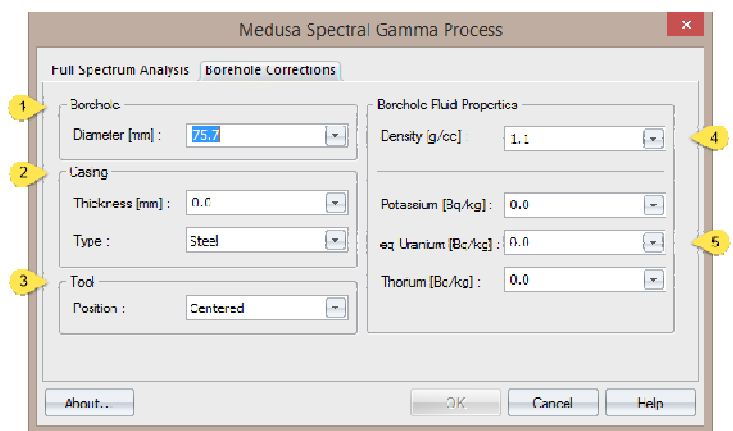

Figure 6 - FSA borehole correction parameters
Before commencing the FSA process the user should open the **Borehole Corrections** tab (figure 6) in the Medusa Spectral Gamma Process dialog box. Setting the correct parameters for borehole diameter (1), casing type and thickness (2), position of the logging tool in the borehole (3) and borehole fluid properties (density (4) and concentration of radioactive additives (5)) is advisable. Corrections will be applied to the derived radionuclide concentrations and output as an additional data channel (with a suffix "- Corr" in the log title).